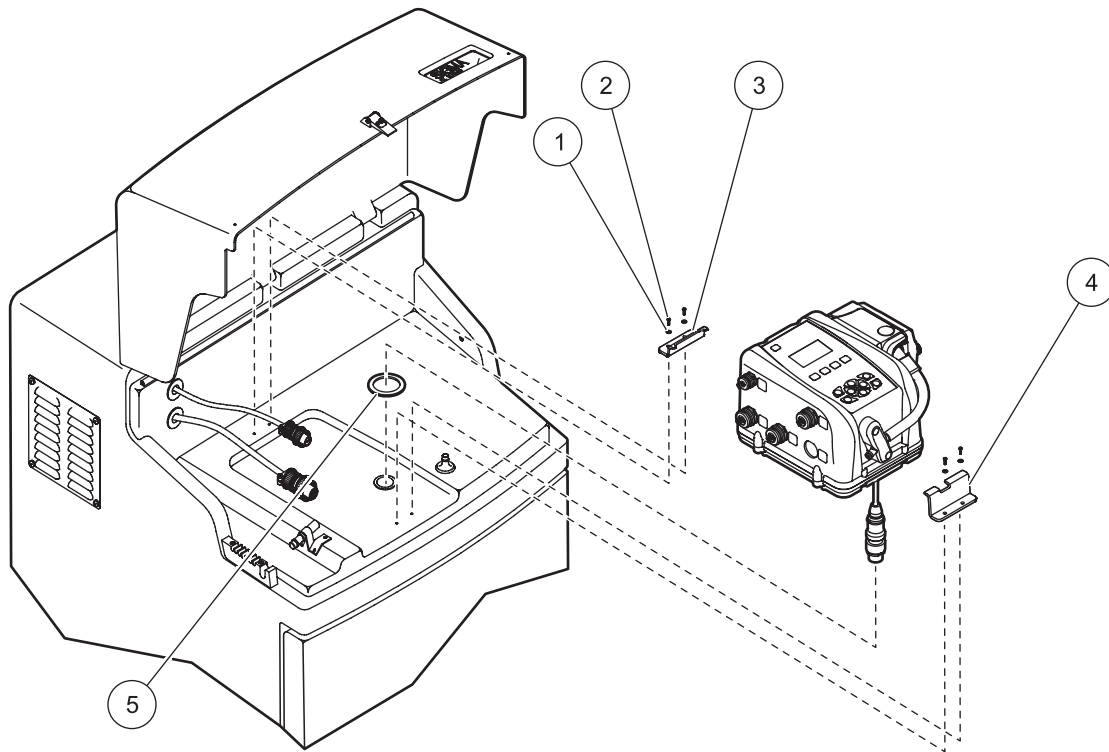

Figure 13 Installation of SD900 controller on AWRS
1. Remove the paper backing from the supplied gasket. Place the gasket adhesive-side down around the distributor/full bottle shut-off hole (Figure 13).
3. Secure the controller to the AWRS cabinet with the supplied front and rear brackets (Figure 13).